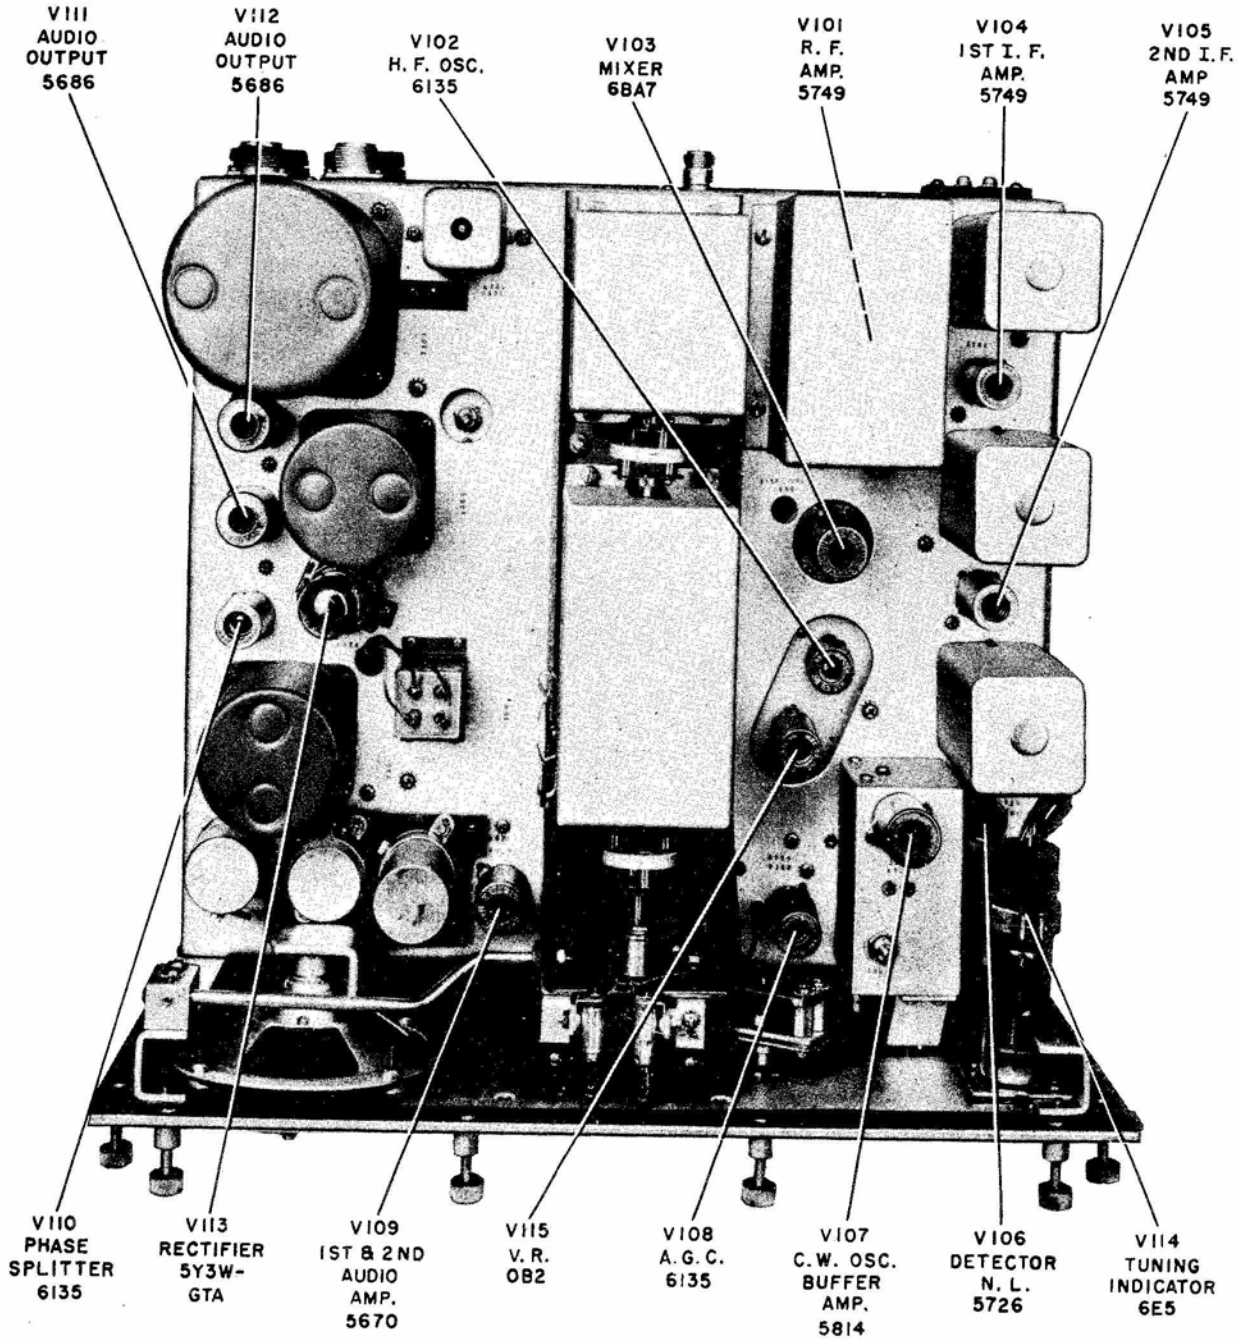

Figure 5-3. Tube Locations
c. ELECTRON TUBE REPLACEMENT.—All electron tubes employed in the R-302/URR-22 receiver are located and identified on Figure 5-3. If a particular tube is burned out as observed visually by the absence of heater or filament glow, the tube may be replaced by another of the same type of proven quality. The A.C. plug may be connected at this time to energize the receiver so that the tubes may be visually inspected.